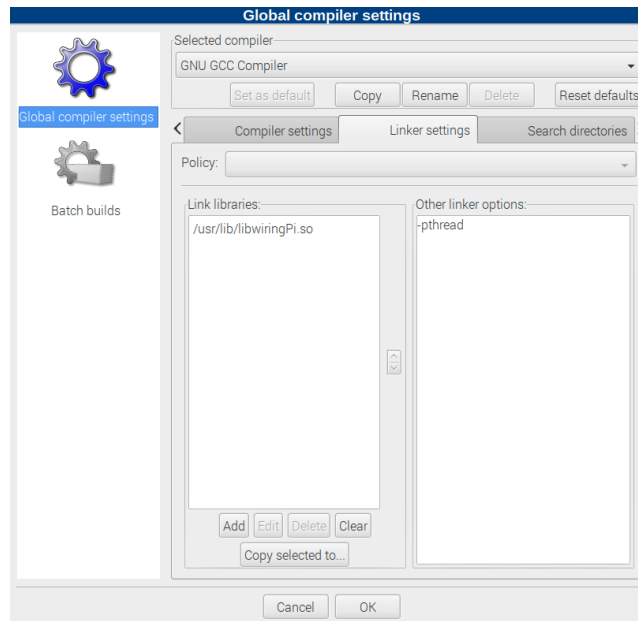

Figure 8: Code::Blocks linker settings
6. Now include the wiringPi libraries into Code::Blocks by opening the global linker settings in **Settings** → **Compiler** → **Linker Settings** and adding the library **/usr/lib/lib-wiringPi.so** to the **Link libraries** field (see figure 8).